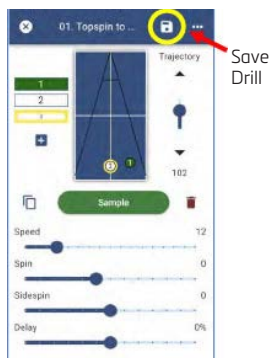

Figure 3-41
3. Press the [+] icon again, to add a third ball. Your screen should now show that the drill has 3 balls. (Figure 3-41). Ball 3 has now been added and is positioned right on top of Ball 2.
You will note that the Drill Save button is enabled, anytime you edit a Drill. (Figure 3-41) If you wish to Save the changes that you have made – in this case adding to Balls to the Drill, Press the Save button.